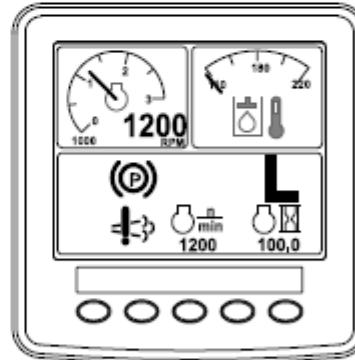

Figure 3
- The recovery-regeneration icon displays in the InfoCenter (Figure 3).